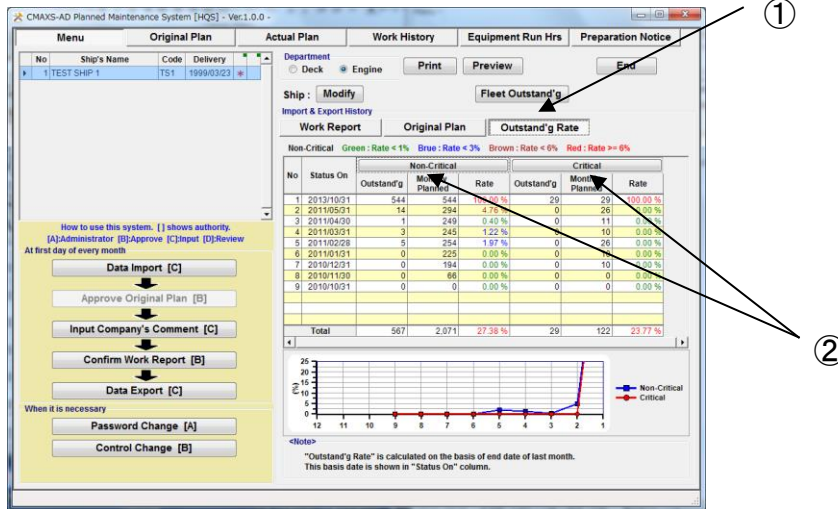
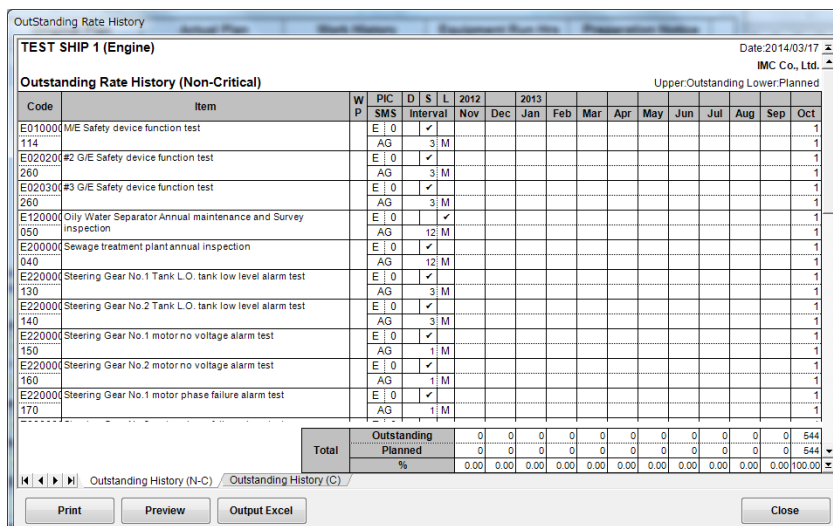

Fig.16-3 Menu Screen
Fig.16-4 Outstanding Rate History for last 12 months
- (1) On the “Menu” screen(Fig. 16-3) Select “Outstand'g Rate” in “Import & Export History” area.
- (2) Select the “Non-Critical” or “Critical” button to display “Outstanding Rate for last 12 month” screen.
- (3) You can refer the “Outstanding Rate History for last 12 months” of “Non-Critical” of “Critical”(Fig.16-4).